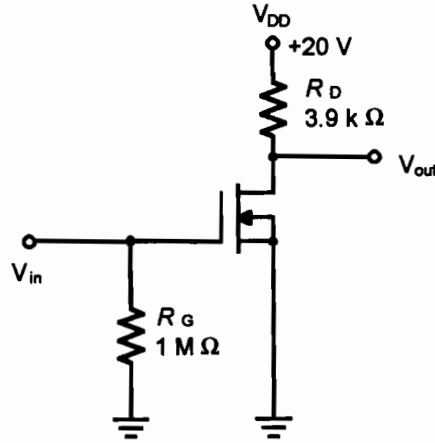

Figure 33.2
3. Turn off the DC power. Modify your circuit to that of Figure 33.2. This is the no-bias case, and  $I_{DQ}$  will be  $I_{DSS}$ .